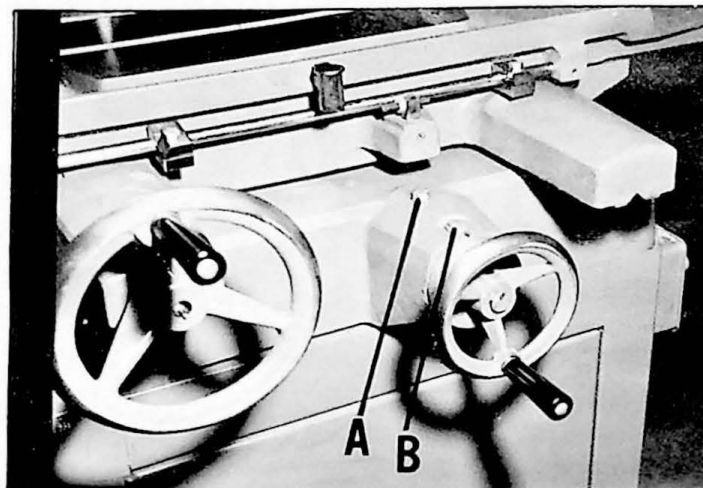

Fig. 14.
1. Remove special screw (A) Fig. 14 and screw (B).